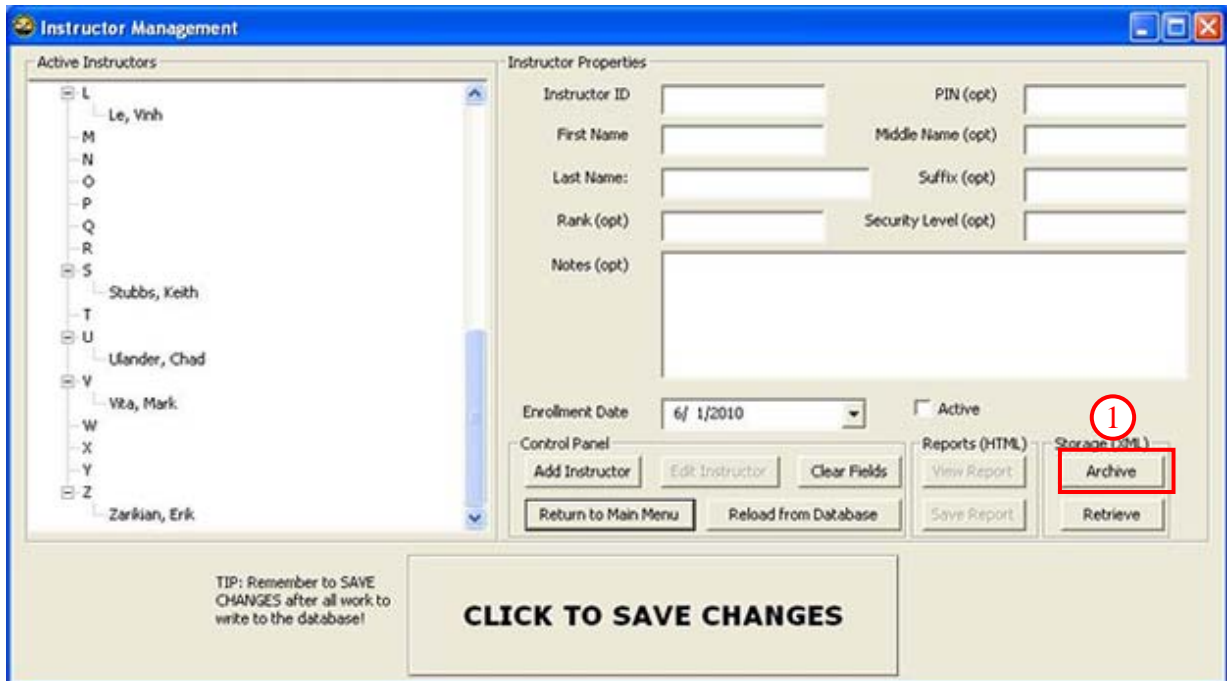

Figure 41. Instructor Management - Archive Instructor
1. Click the [ARCHIVE] button (Figure 41).